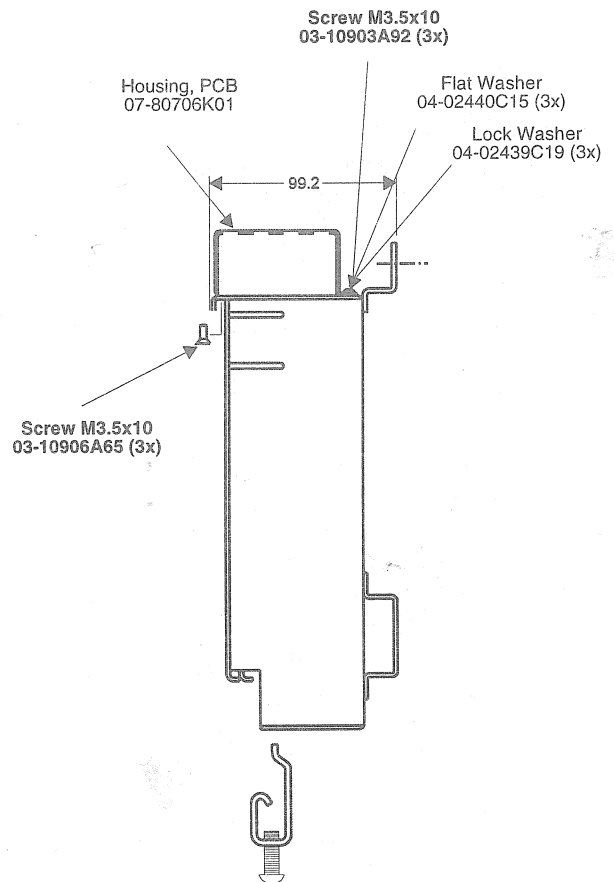

Figure 2. Junction Box Fastening to the Mounting Tray
Step 1. Remove the six screws fastening the junction box to the mounting tray (see Figure 2).